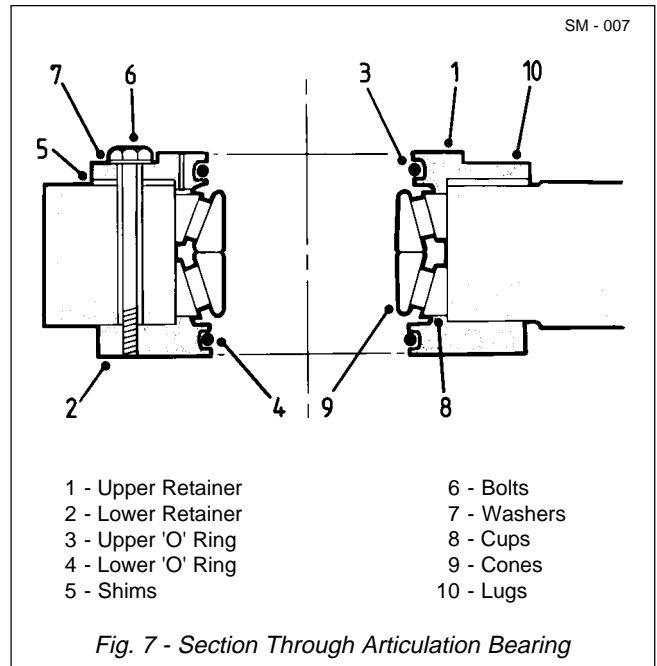

Fig. 7 - Section Through Articulation Bearing
**Note:** Two bearings are installed on EACH articulation point. Each bearing comprises a cup and a cone and are installed into the articulation point with the cones 'back to back'. Refer to Fig. 7.